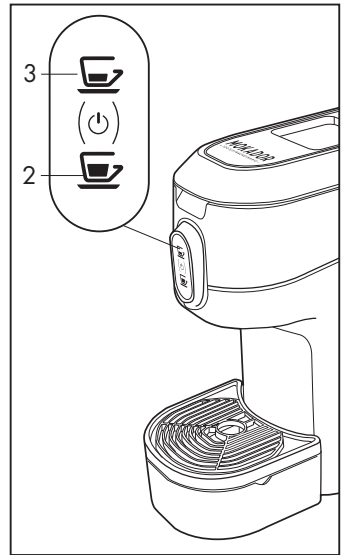

Fig. 4
- Switch on the machine by pressing one of the symbols (2) or (3) or the 2 symbols (2) and (3) simultaneously (**Fig.4**). The symbols (2-3) will flash intermittently until the temperature is reached; when the symbols (2-3) are lit with a fixed light the machine is ready for use.
To use the machine again, press a dispensing symbol (2-3) and wait for it to heat up: the dispensing symbols (2-3) will blink intermittently until the temperature is reached; when the symbols (2-3) are lit with a fixed light the machine is ready for use. (**Fig.4**).
The machine can be switched off by simultaneously pressing and holding down for 3 seconds the symbols (2-3) (**Fig.4**).
- Check that there are no capsules inside the machine and that there is water in the tank (8); switch on the machine by pressing one of the symbols (2-3) or simultaneously the 2 symbols (**Fig.4**)